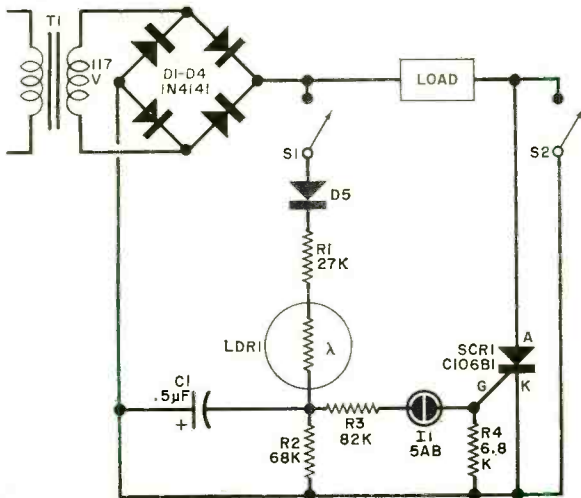

Fig. 1. Although designed to operate an aquarium heater, this circuit will switch 240 watts with a change in the light level.
**Reader's Circuit.** The light-switched control circuit illustrated in Fig. 1 originally was developed to switch aquarium lights on and off each day, thus maintaining an established regimen while the owner was away on vacation. The designer, Thomas E. Hutchinson (33 Warrender Ave., Apt. 208, Islington 676, Ontario, Canada), suggests that it also could be used to switch any line-operated ac/dc appliance within its power handling capability of 240 watts. Typically, it might be used to provide automatic control for a small exhaust fan in an office or store, turning the fan on in the morning and off again at night after the day's business is complete.